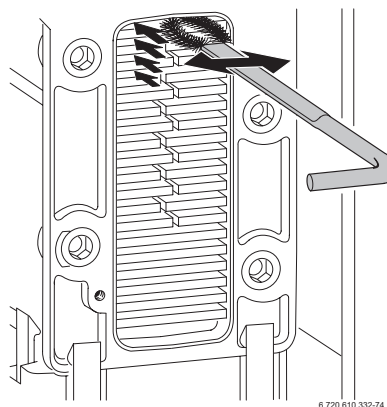

Fig. 54
- Clean the heat exchanger from top to bottom using the brush. Refer to fig. 54.